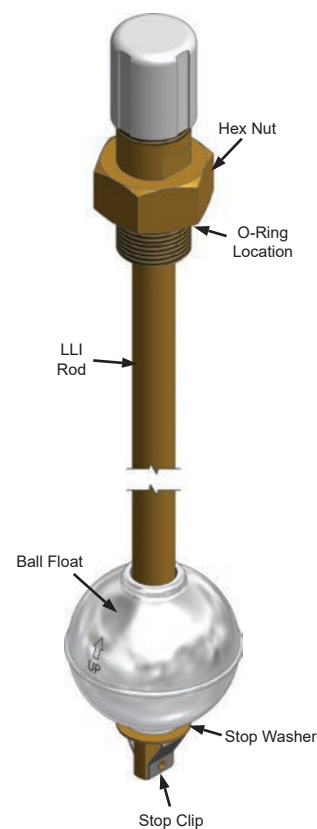

Figure C.2 LLI Interior
3. Once the hex nut threads are backed out, SLOWLY pull the LLI out from the cylinder boss. The ball float at the base of the LLI rod will not allow for the LLI to be completely removed. Care should be taken to avoid damaging the ball float or the stop clip when withdrawing the LLI. (Refer to Figure C.2)